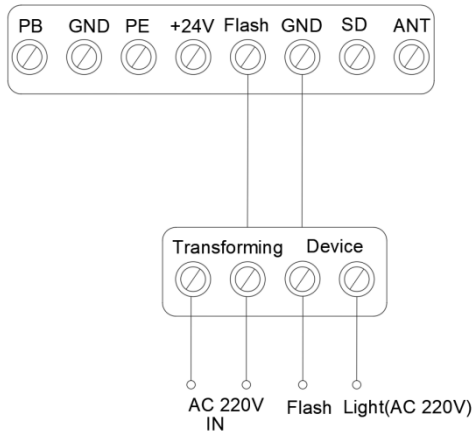

Figure 24
2. Flash light function. (Fig. 23, Fig. 24)
3. Pass door (SD) protection (Fig. 23, Fig. 24)
4. External power supply (BAT) and antenna (ANT), WIFI port.(Fig.24)